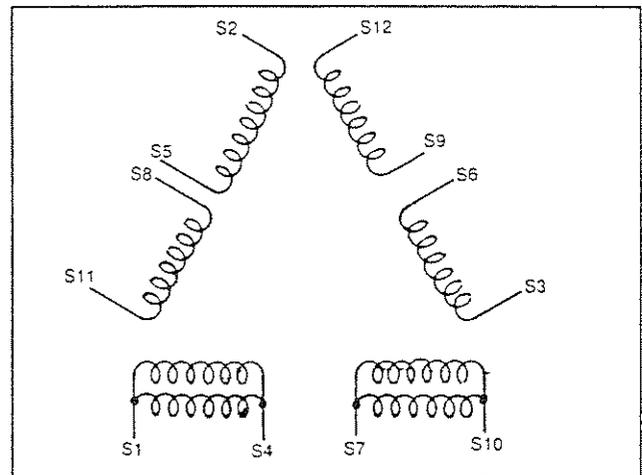

Figure 9. Stator Output Leads (3-Phase)
b. See Figure 9. Test all six of the stator AC power winding coils for continuity by connecting VOM test probes across each of the following pairs of leads. Refer to "Stator Winding Resistance Values" on Page 1 for nominal resistance values. A very high reading or "infinity" indicates an open condition.
- (1) S1 to S4.
- (2) S7 to S10.
- (3) S8 to S11
- (4) S3 to S6.
- (5) S9 to S12.
- (6) S2 to S5.